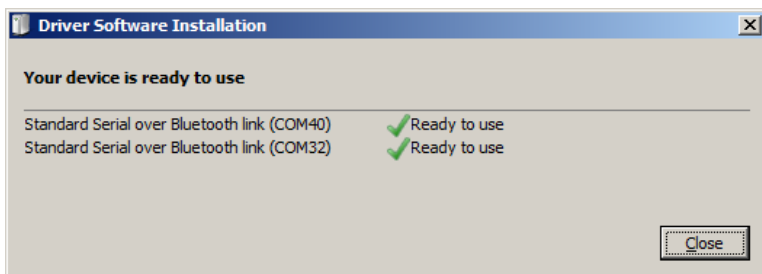

Figure 34: Virtual COM ports - ready to use
- When the device is successfully added and the two virtual COM ports are ready to use, click **Close** (Figure 34).